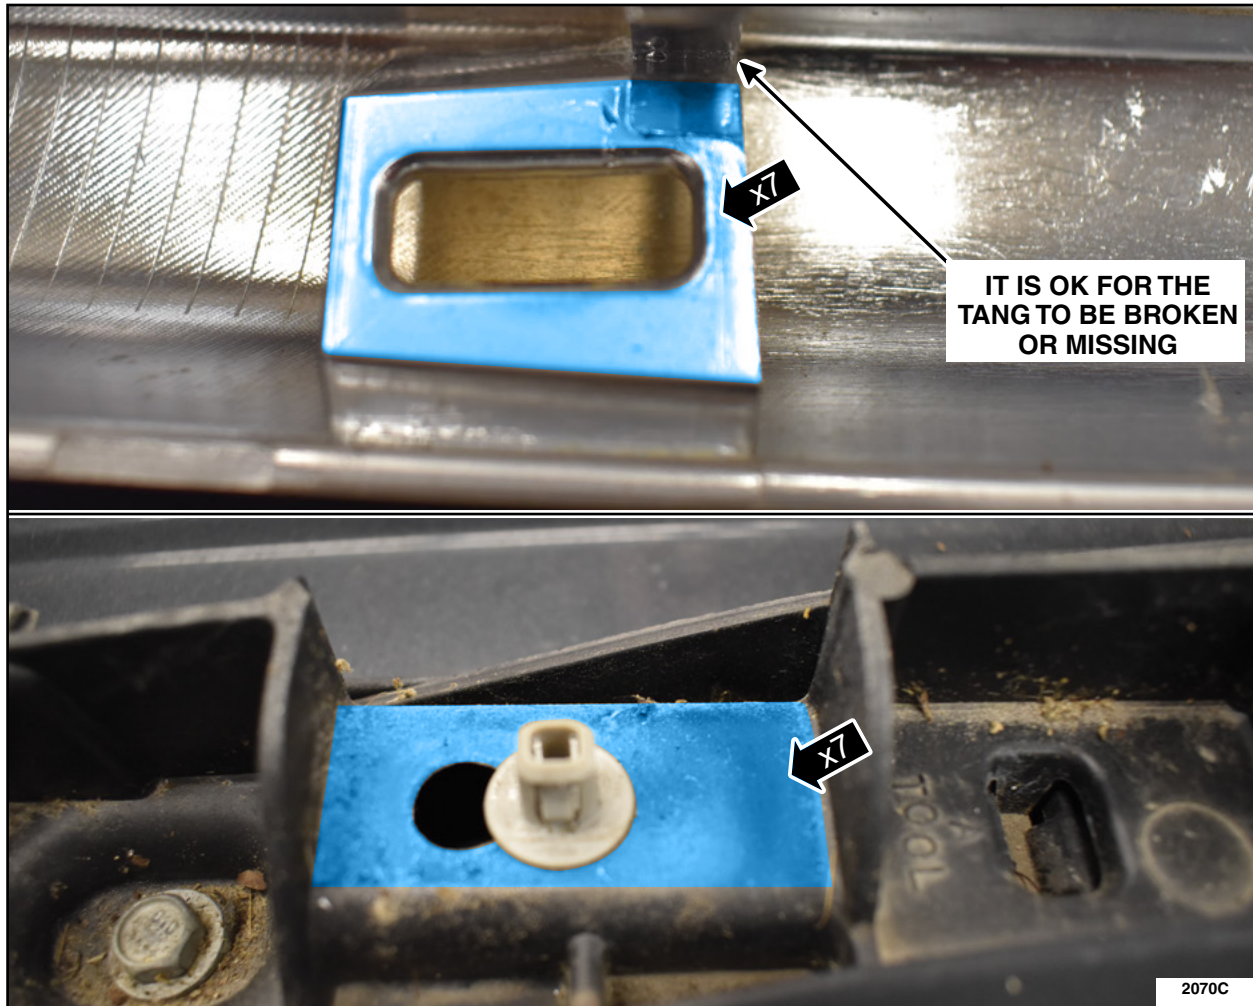

FIGURE 12
2. Remove any adhesive on the roof rail cover retaining tower and roof rail contact pads. See Figure 12.